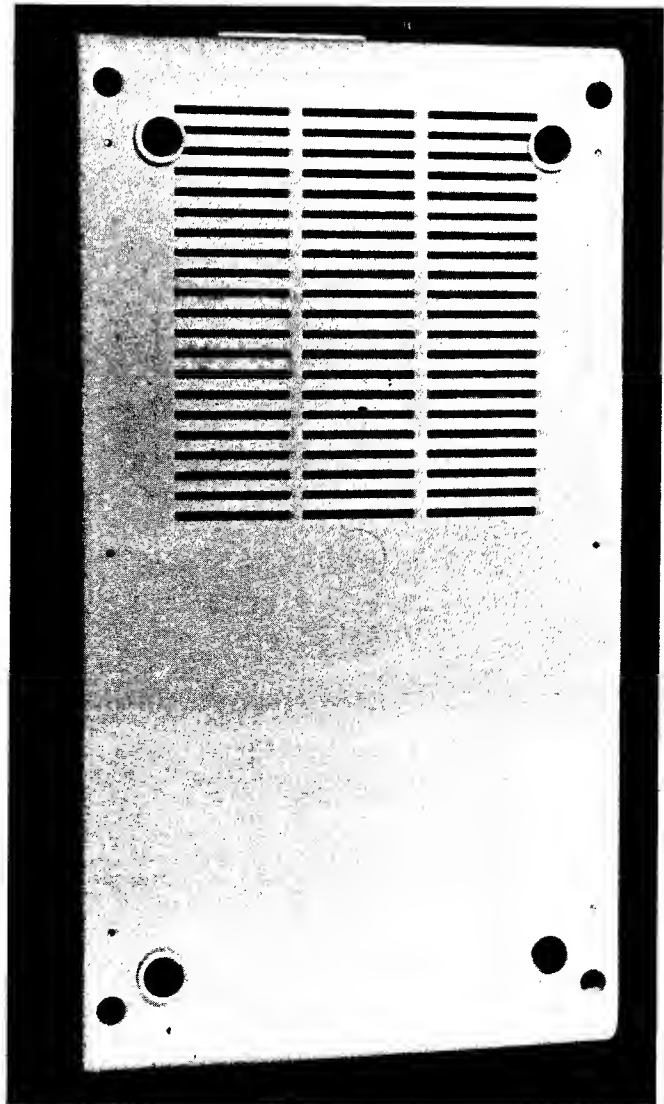

Fig. 5-11. Remove the four silver-colored screws holding the disk drive cover on the drive mechanism.
6. Remove the four silver Phillips-head screws holding the cover tight, as shown in Fig. 5-11.